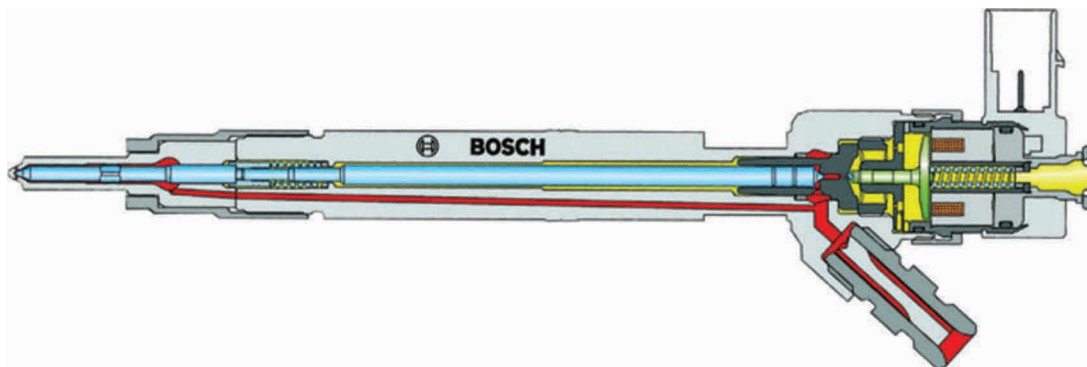

Figure 6.41 Electrically operated diesel fuel injector.
- electronically controlled injectors (Figure 6.41);